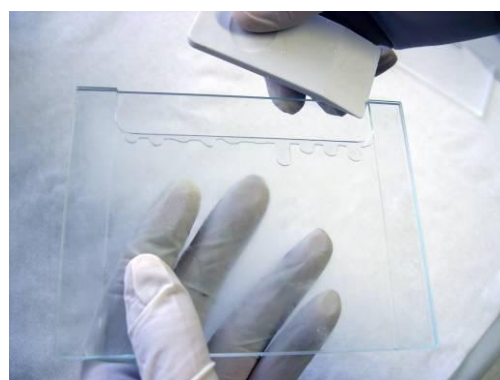

Figure 14. *Separate the glass plates using the glass plate separator. Wiggle carefully at one corner until the glass plates separate.*
- After electrophoresis, remove the gel from the glass plates by inserting a glass plate separator between the glass plates and gently wiggle it until the plates separate (*fig. 14*). Remove the stacking gel and stain the resolving gel with Coomassie blue solution for 15 minutes.